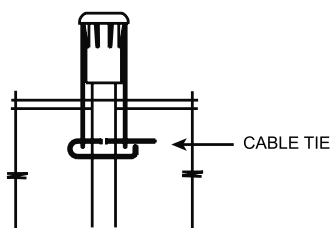

FIG. 8
15. Line up holes in retainer with second hole from the top of the picket, and place cable tie through all three holes (Fig. 8). Bottom of barrier will be approximately 50 mm off ground.